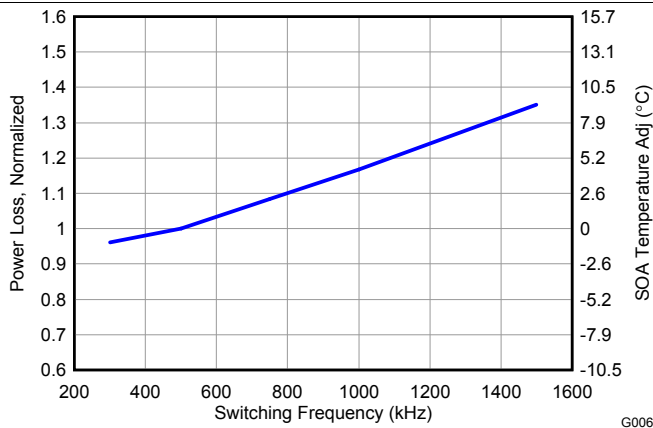

Figure 6. Normalized Power Loss vs Switching Frequency
- Normalized Power Loss for switching frequency ≈ 1.17 (Figure 6)